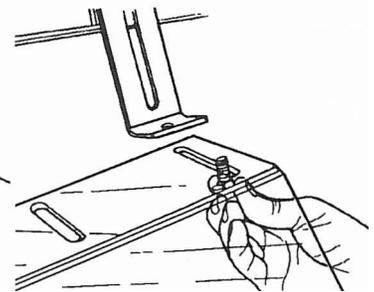

Fig. A-31
**25.** Place a flat washer (30) on a carriage bolt (31) and insert it through the right slot in the guard (21), as shown in Fig. A-31.